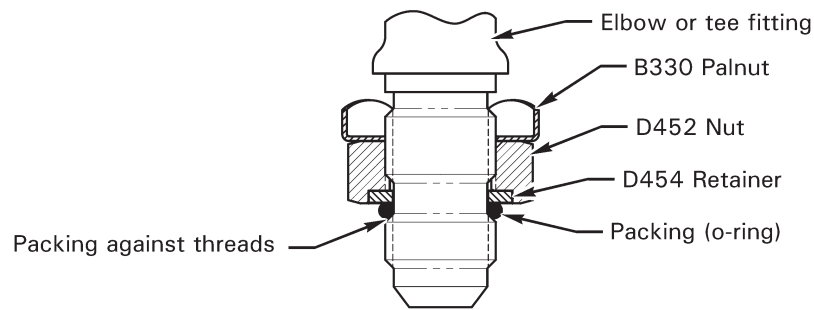

Figure 2A
- a. Refer to Figure 2A. Lubricate MS29512-06 packing using A257-6 grease and assemble parts as shown. Install retainer into counterbore of nut; install packing against retainer. Turn nut down by hand until packing is against the lower threaded section of elbow.